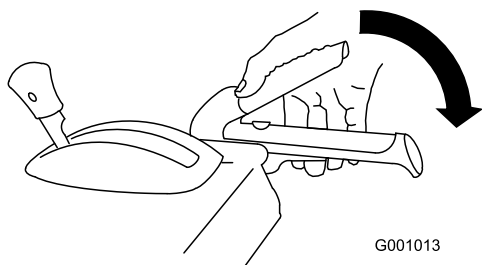

Figure 32
1. To engage the auger/impeller drive, squeeze the right (auger/impeller) lever to the handgrip (Figure 32).